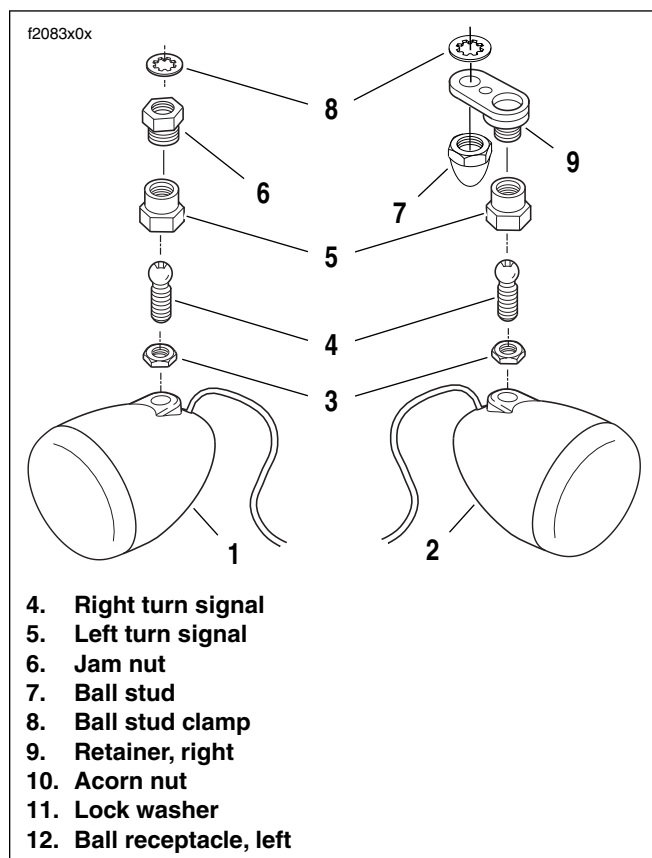
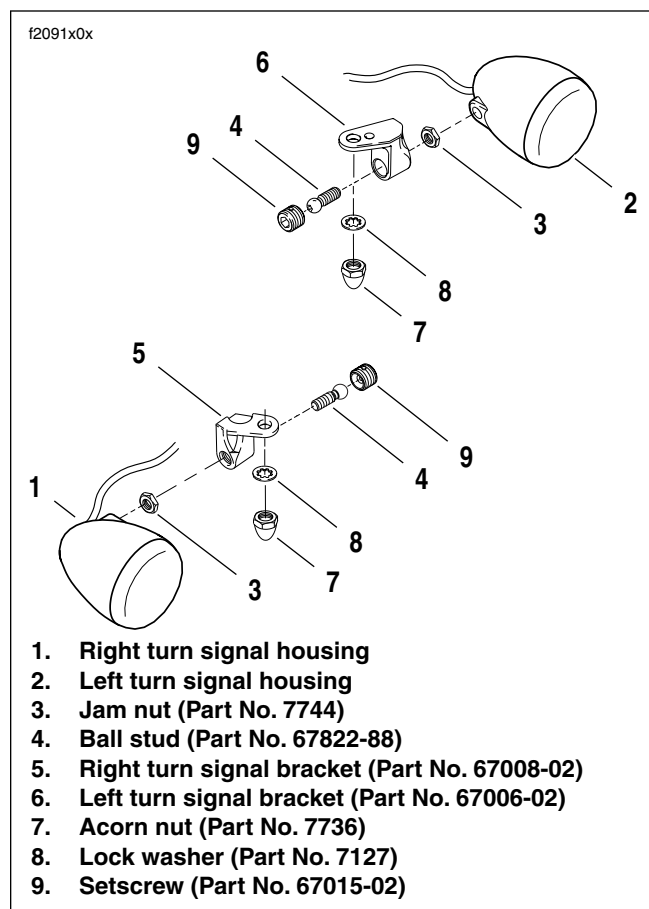

Figure 2. Old Turn Signal Bracket Assemblies
Figure 3. New Turn Signal Bracket Assemblies
- a. See Figure 2. Hold ball stud clamp (5) with a wrench. Loosen jam nut (3).
- b. Hold right retainer (6) with a wrench. Unscrew ball stud clamp.
- c. Unscrew ball stud (4) and jam nut from turn signal housing. Set ball stud and jam nut aside for re-use. Discard ball stud clamp.
- d. Unscrew right retainer from mirror stem. Discard right retainer and lock washer (8).
- a. See Figure 3. Attach right turn signal bracket (5) to mirror stem with **new** lock washer (8) and acorn nut (7) from kit. Finger-tighten only at this time.
- b. Slide ball stud (4) into turn signal bracket from inboard side. Thread jam nut (3) all the way onto ball stud.
- c. Screw ball stud into right turn signal housing (1). Finger-tighten jam nut against turn signal housing.
- d. Screw setscrew (9) into turn signal bracket. Do not tighten at this time.
- a. See Figure 2. Hold ball stud clamp with a wrench. Loosen jam nut.
- b. Unscrew ball stud clamp from left ball receptacle (9).
- d. Unscrew acorn nut (7). Remove left ball receptacle and lock washer (8) from mirror stem. Discard left ball receptacle and lock washer. Set acorn nut aside for re-use.
- a. See Figure 3. Attach left turn signal bracket (6) to mirror stem with **new** lock washer from kit and acorn nut previously set aside. Finger-tighten only at this time.
- c. Screw ball stud into left turn signal housing (2). Finger-tighten jam nut against turn signal housing.
3. See Figure 3. Tighten mirror stem acorn nuts (7) to **60-96 in-lbs** (6.8-9.0 Nm).
4. Position front turn signal housings (1, 2) evenly with lenses pointing straight ahead. Tighten each setscrew (9) to **50-60 in-lbs** (5.7-6.8 Nm).